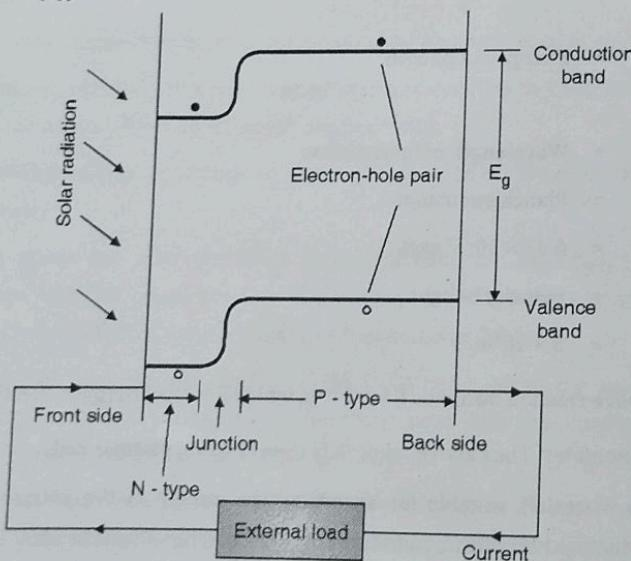

Fig. 3.3.2(b) : Band structure of solar cell
- Such excited electrons jump across the band gap from the valence band to the conduction band, but they leave behind holes in the valence band. In this way electron-hole pairs are created, it is as shown Fig. 3.3.2(b).
- In the case of silicon, the potential gradient is obtained by making the cell as a sandwich of two types of silicon, i.e. p-type and n-type. Thus, when a composite of the two types of silicon is formed, a jump in energy levels occurs at the junction interface. (See Fig. 3.3.2 (b))